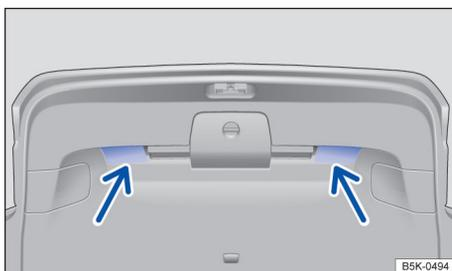

Fig. 60 Open trunk lid: Recessed grips for closing the trunk lid.
- Grasp one of the recessed grips in the trunk lid trim → fig. 60 (arrows).